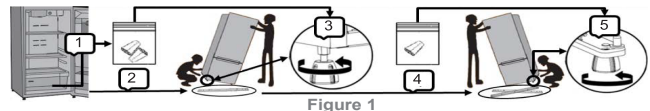

Figure 1
B. In some models, the refrigerator's vegetable storage drawer contains a plastic bag with two levelers. When unpacking, proceed as follows, see Figure 1: